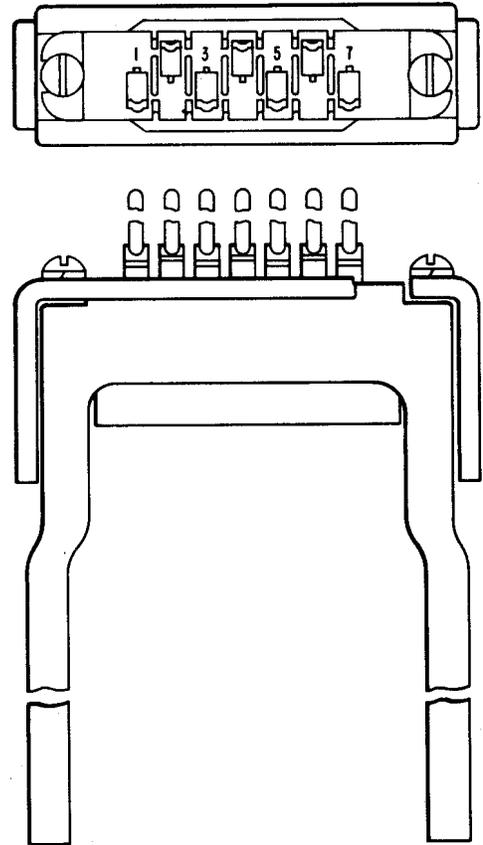

Fig. 4—910A or B Connector
2.03 910A and B: The 910A and B connectors (Fig. 4) consist of a molded block of insulating material containing spring terminals, equipped with twin contacts for connection to a printed wiring board. The wiring end of each terminal is arranged for mechanically wrapped connection, unless otherwise stated. The 910A and B connectors are provided with a tapped metal bracket which is arranged to mount by means of two No. 4 screws which pass through a mounting plate, the holes in the connector, and into the bracket.